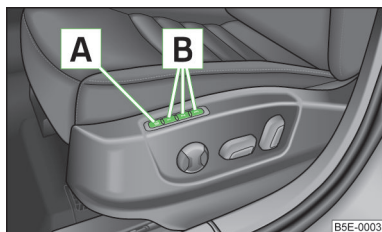

Fig. 50
The memory function for the driver's seat provides the option to store the positions of the driver's seat and the external mirrors. Each of the three memory buttons **B** » Fig. 50 can be assigned a set position.
- Press the button **SET** **A** » Fig. 50.
- Press the required memory button **B** » Fig. 50.
- Tap the desired memory button **B** » Fig. 50 when the ignition is switched off and the driver's door is opened.
- Press and hold any memory button **B** » Fig. 50 on page 66. After the seat has assumed the position stored under this button, at the same time press the button **⏏** on the remote control key within 10 seconds.
- Press and hold the **SET** button **A** » Fig. 50 on page 66. At the same time, press the button **B** on the remote control key within 10 seconds.